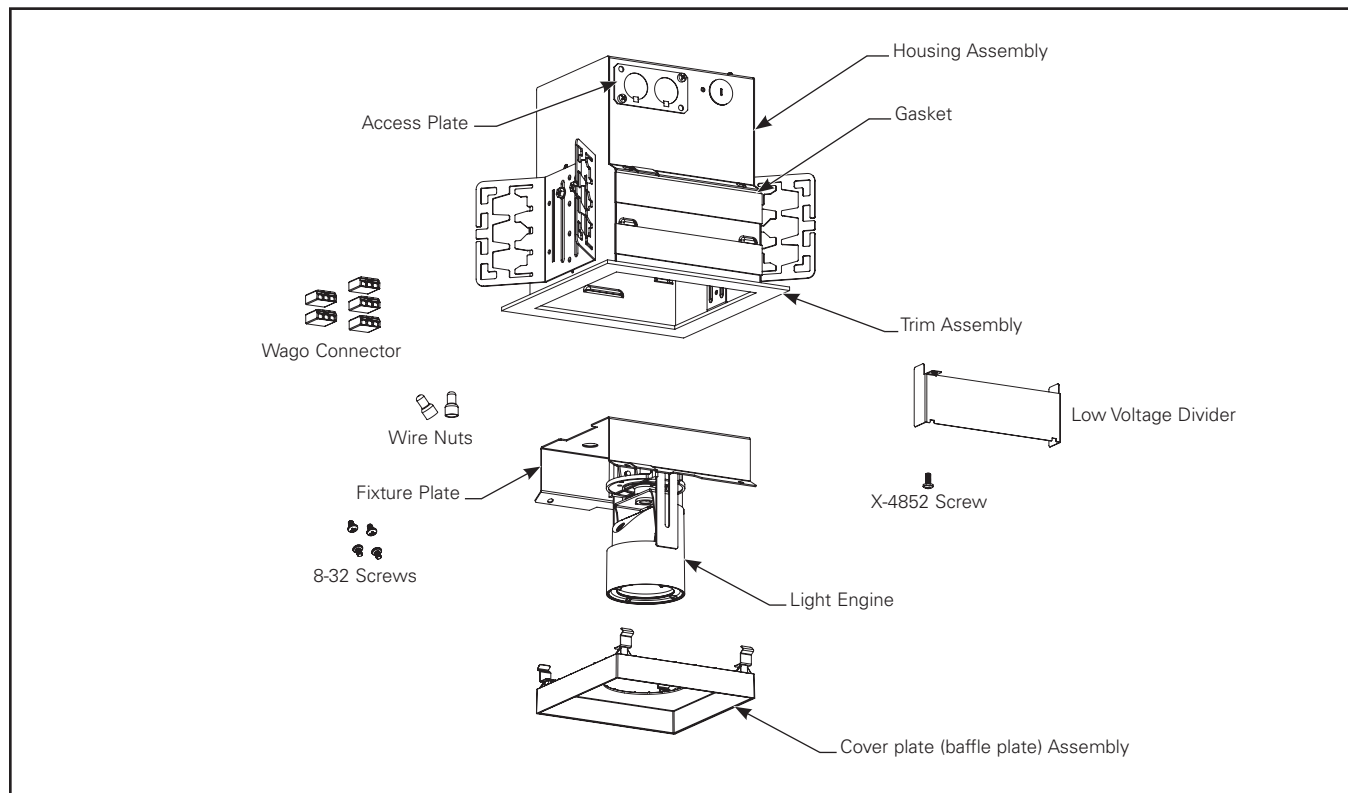

Figure 1.1.
1. Unpack HCM multi-head luminaire and ensure that all parts are included. (Figure 1.1)